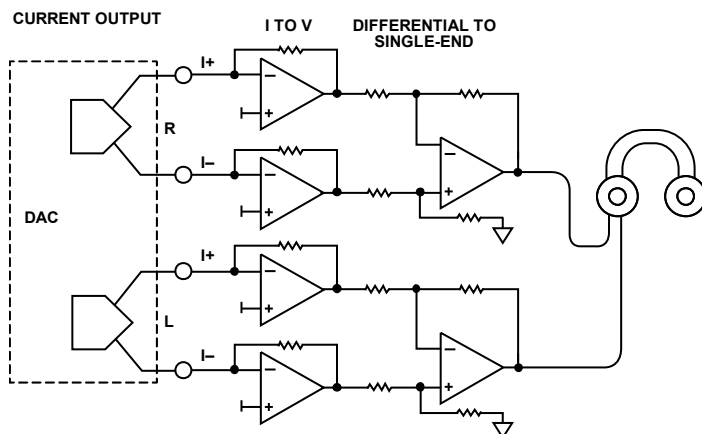
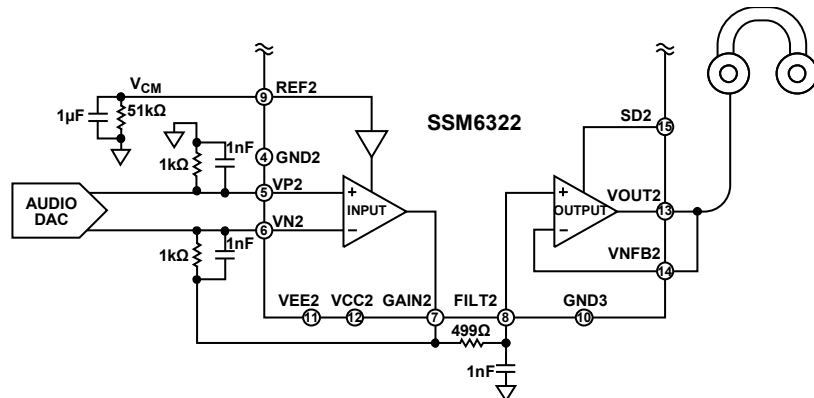

Figure 41. Current Output DAC Configuration
Figure 46. SSM6322 Circuit with Current Output DAC
For a current output configuration, implement an current to voltage (I to V) circuit to convert the differential current signal from the R channel and the L channel to the differential voltage signal, followed by a difference amplifier circuit (see Figure 41).
Current output audio DACs are typically used to achieve the best THD + N performance (see Figure 41). Six amplifiers and many passive components are required to perform current mode signal conditioning, which consumes more PCB area and more power. Area consumption and power consumption are important considerations in mobile phone applications.
In a typical current output DAC signal chain (see Figure 41), four amplifiers are configured as an I to V circuit. The non-inverting inputs are connected to a dc voltage that is the output common-mode level of the DAC, making the voltage at the I+/I- terminals a dc signal. This signal makes the voltage drop at two internal source resistors of the DAC (R_{S1} and R_{S2}) the same, which makes the DAC achieve the best distortion performance.
For an audio DAC with a differential current output, two gain resistors convert the current to voltage (see Figure 46). The resistor value is determined by the DAC output full-scale current and the input stage output range (the output range is ± 3 V at a ± 5 V supply). Assuming that the DAC single-ended output current is ± 1.5 mA, and that the differential current is ± 3 mA, the output of the input stage is ± 3 V when using two 1 k Ω gain resistors. The feedback capacitors, in parallel with the gain resistors, form a single-pole, low-pass filter. The SSM6322 can handle up to a 1 k Ω and 2.2 nF resistor capacitor combination.
A 499 Ω resistor and 1 nF capacitor can be added between the input stage and output stage for a second single-pole, low-pass filter, as shown in Figure 46.
- The SSM6322 circuit is different with a typical current output DAC signal chain (see Figure 41); there is only one op amp that performs the differential I to V conversion. The power across the noninverting grounded resistor is fixed, but the power across the feedback resistor varies with the output signal. This variability creates a mismatch between the two resistors, as well as distortion if the heat cannot be well dissipated. Low drift (25 ppm/°C) metal film or thin film resistors are suggested to avoid this situation (see Figure 46).